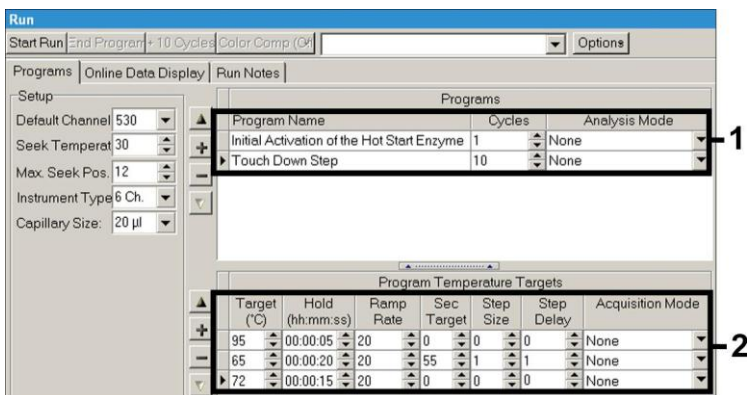

Fig. 9: Etapa touch down.
- B. Etapa *touch down* Fig. 9